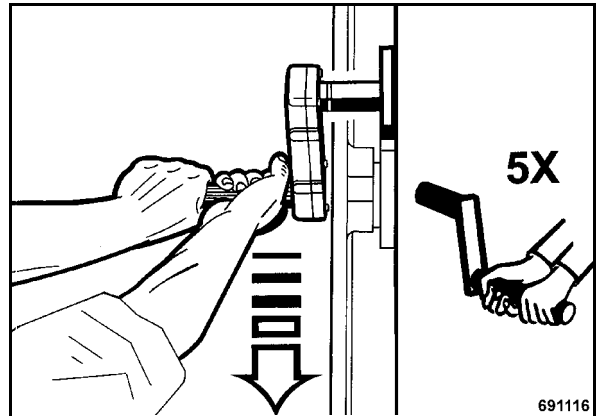

Fig. 25
- Take a correct position to the machine (Fig. 25). Hold the crank handle properly.